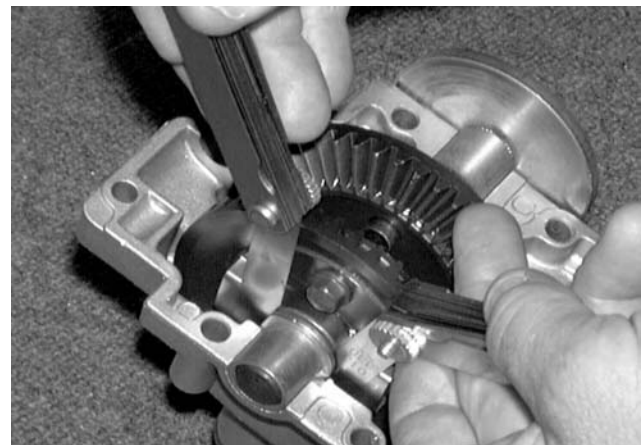

Figure 8-66.
17. Make certain the upper drive shaft assembly is within tolerance by placing two feeler gauges between the flat washer and the bushing behind each bevel gear. See Figures 8-66 and 8-67.